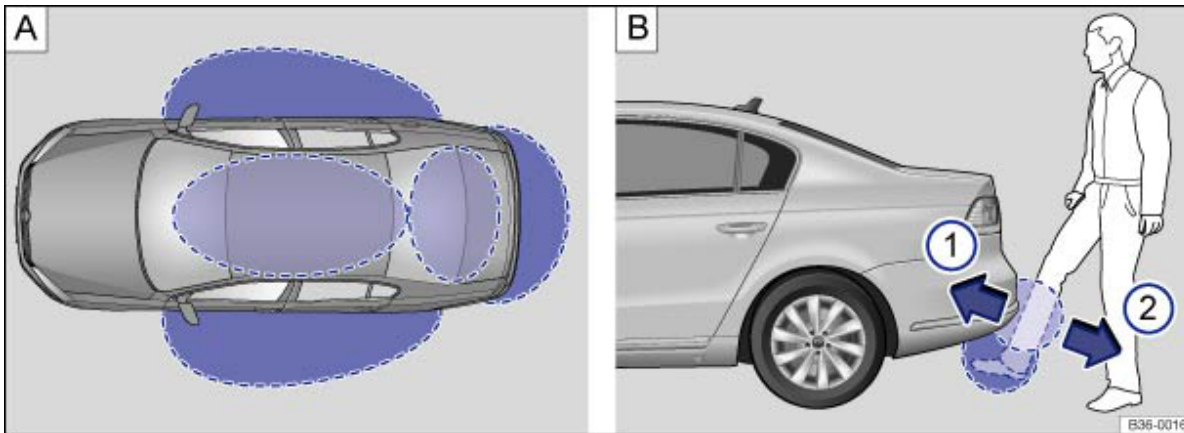

Fig. 28 Keyless Access locking and starting system: (A) operating ranges. (B) Boot lid with sensor-controlled opening (Easy open)
Keyless Access is a locking and starting system that allows the vehicle to be locked or unlocked without using the key. The only requirements are that a valid vehicle key is located in the operating range of the vehicle → Fig. 28 A and that one of the door handle sensors → Fig. 29 is touched or the Volkswagen badge on the boot lid is activated → Boot lid →  .
If a valid vehicle key is in the operating range → Fig. 28 A, the Keyless Access locking and starting system authorises the key to obtain access to the vehicle as soon as the sensor on the door handle is touched or the Volkswagen badge on the boot lid is activated. The following functions can then be performed without active use of the vehicle key:
If the vehicle is locked, the boot lid will be unlocked automatically when opened if a valid vehicle key is located within the operating range of the boot lid → Fig. 28 A.
Once a valid vehicle key enters the operating range of the boot lid → Fig. 28 A, the boot lid can be unlocked and opened by moving your foot in the sensor area underneath the rear bumper → Fig. 28 B.
- Make quick movements with your foot and shin as close as possible to the bumper. The shin must be over the sensor area and foot underneath it → Fig. 28 B ①.
- Quickly remove foot and shin once more from the sensor areas → Fig. 28 B ②. The boot lid will then open.